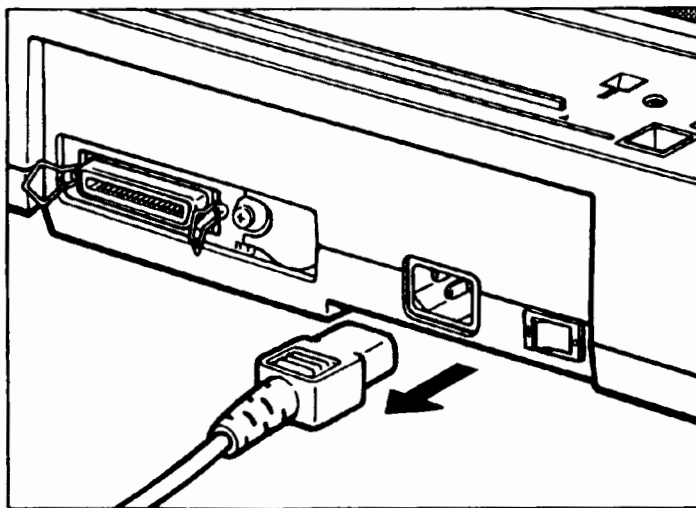

Figure C-8. Disconnecting the Power Cord
7. Disconnect the power cord from the scanner. See figure C-8.